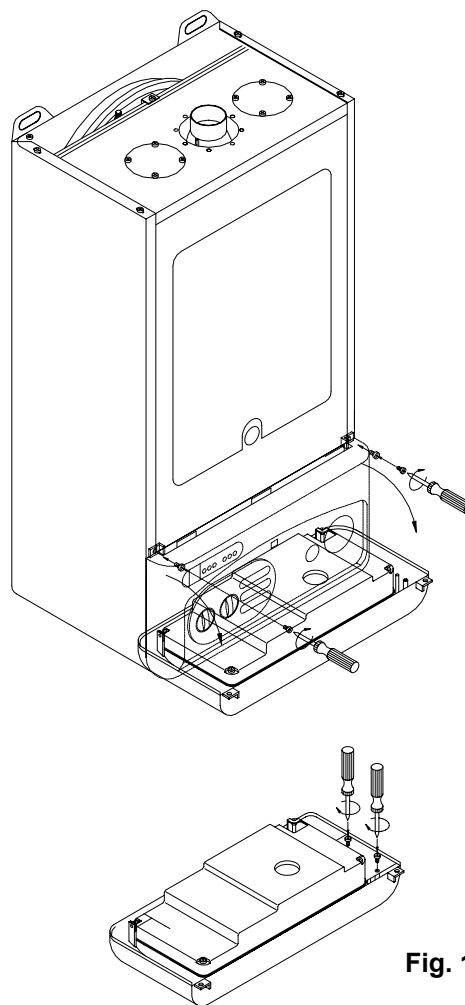

Fig. 1
- C. Undo the two screws on the panel and turn it to the position shown in fig.1 (pos. 1).
- D. After pulling the panel downwards, undo the screws on the housing and open the small rear panel plate as shown in the figure 1.
- Connect the yellow/green wire to the terminal marked with the earth symbol " $\perp$ " (see fig.1).
### LEGEND (see fig. 1)